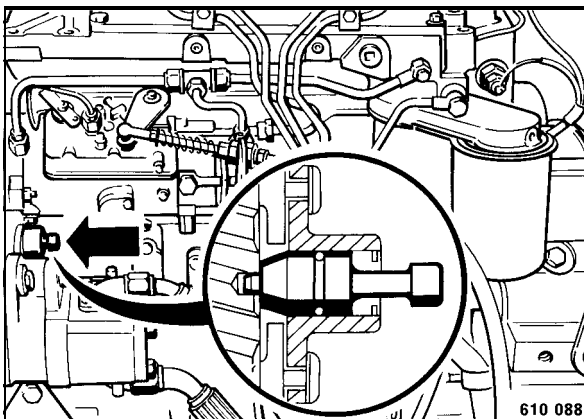

Fig. 117
- Press the adjustment pin (Fig. 117) in and turn the engine crankshaft until the pin clicks into place.